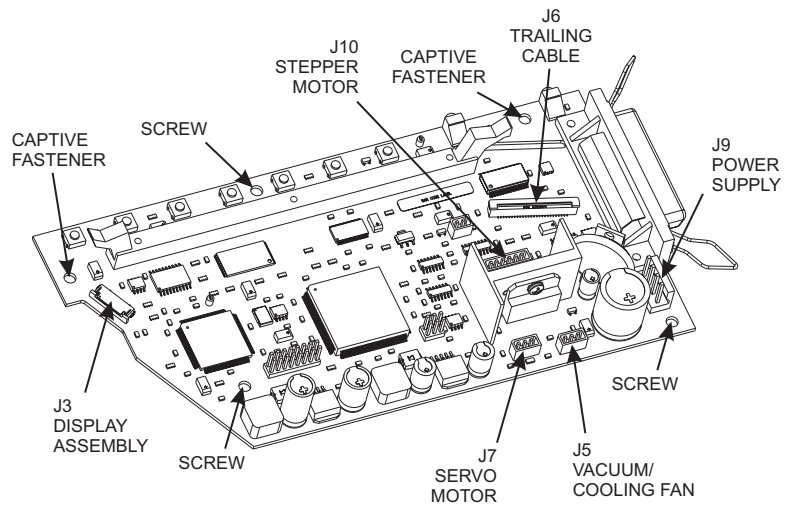

Figure 5-2. MPWA Connection and Screw Locations.
Disconnect all 6 connectors on the MPWA so that the MPWA can be removed (see Figure 5-2 for positions of the connectors), as follows:
2. Use a #2 6" Phillips screwdriver to remove the three remaining screws holding the MPWA onto the side plate. See Figure 5-2 for locations. Hold the top of the MPWA while removing the screws.
3. Hold the MPWA in place on the Right Side Plate while putting in the correct three screws in the holes located on Figure 5-2. Use a #2 Phillips screwdriver to torque the screws to 6 in-lbs.